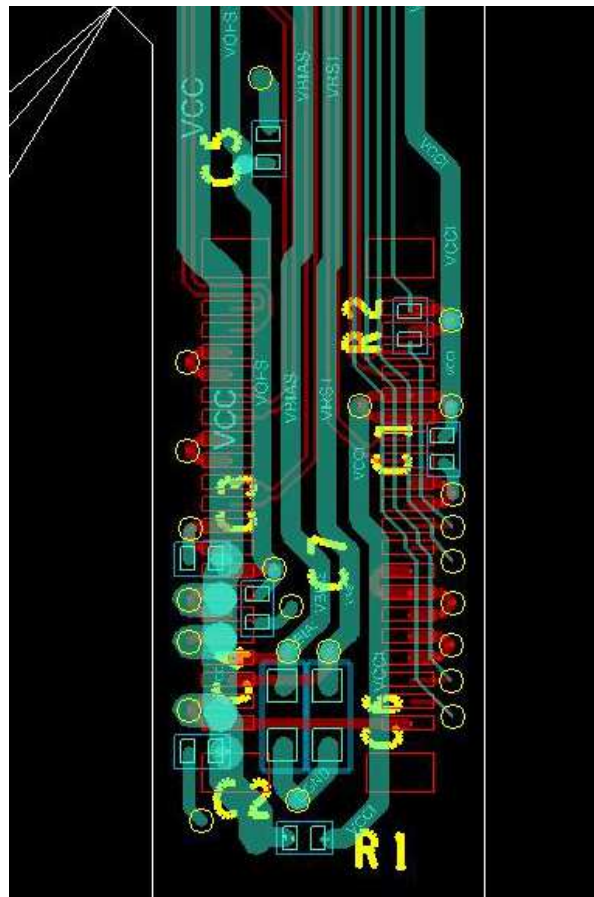

Figure 25. Power Supply Connections
- Place a decoupling capacitor (minimum 100-nF) close to VBIAS. See capacitor C4 in Figure 25.
- Place a decoupling capacitor (minimum 100-nF) close to VRST. See capacitor C6 in Figure 25.
- Place a decoupling capacitor (minimum 220-nF) close to VOFS. See capacitor C7 in Figure 25.
- Place the optional decoupling capacitor (minimum between 200-nF and 220-nF) to meet the ripple requirements of the DMD. See capacitor C5 in Figure 25.
- Place a decoupling capacitor (minimum 100-nF) close to VDDI. See capacitor C1 in Figure 25.
- Place a decoupling capacitor (minimum 100-nF) close to both groups of VDD pins, for a total of 200 nF for VDD. See capacitors C2 and C3 in Figure 25.